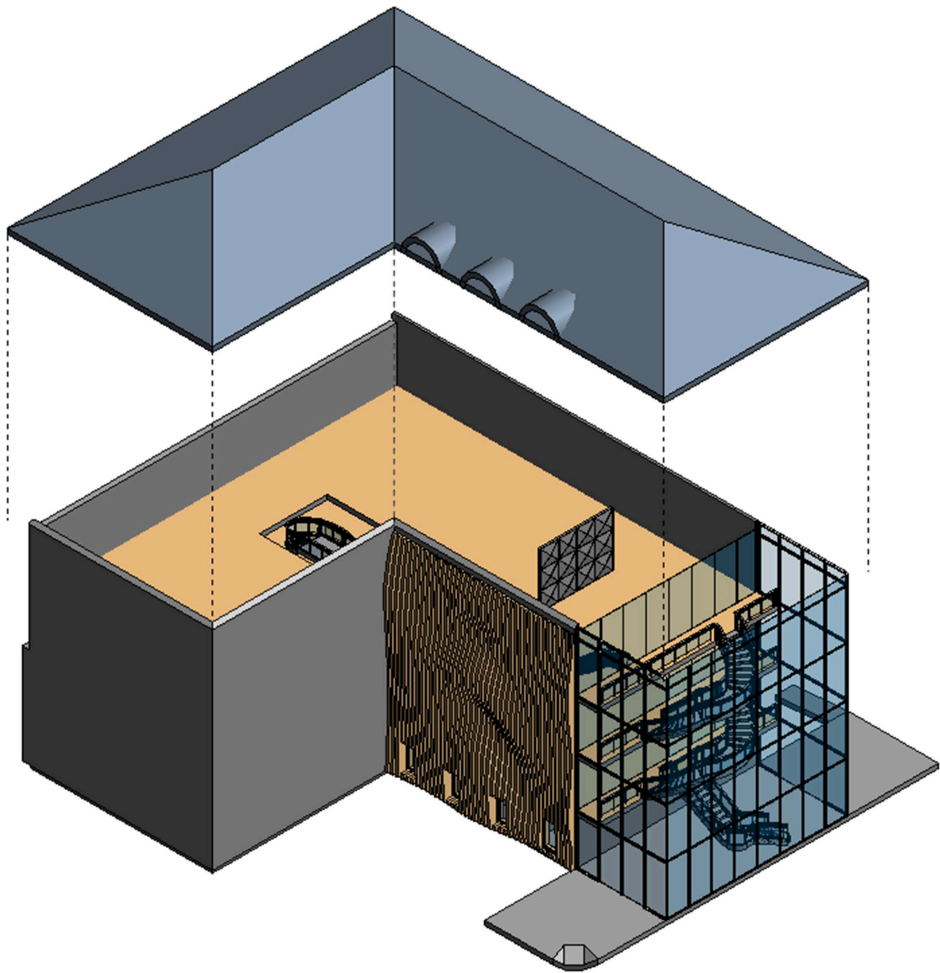

Figure 9.8 Exploded roof with path lines
6. Do the same for the Ceiling and the three roof extrusions as shown in Figure 9.8